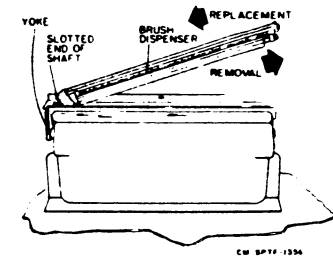

Figure 1. Removing the Brush Dispenser
3. PLACE THE DISPENSER ASSEMBLY ON A CLOTH OR PAPER (FIGURE 1).
4. REMOVE THE BRUSH DISPENSER (FIGURE 1).
1. INSTALL THE SLOTTED OR DRIVE END OF THE BRUSH DISPENSER FIRST (FIGURE 1) ENSURE THAT THE FOAM SEALS ARE PROPERLY POSITIONED ON THE SHAFT OF THE BRUSH DISPENSER